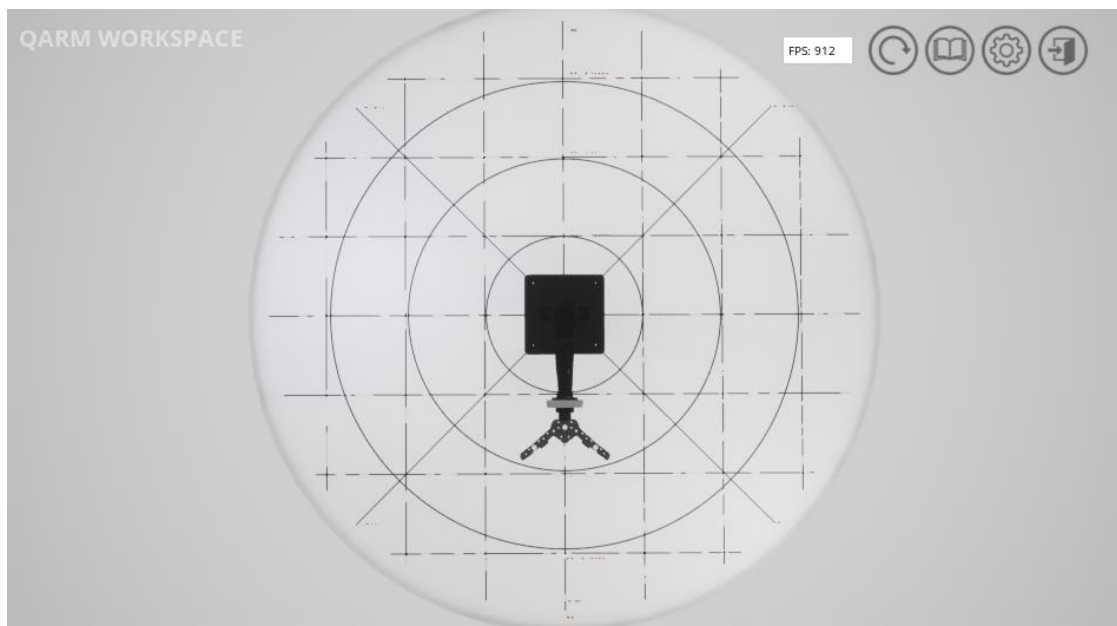

Figure 4 Top view of the manipulator
16. View the manipulator from the top as shown in Figure 4. You can hold the left-click mouse button and drag to change the camera view in Quanser Interactive Labs.